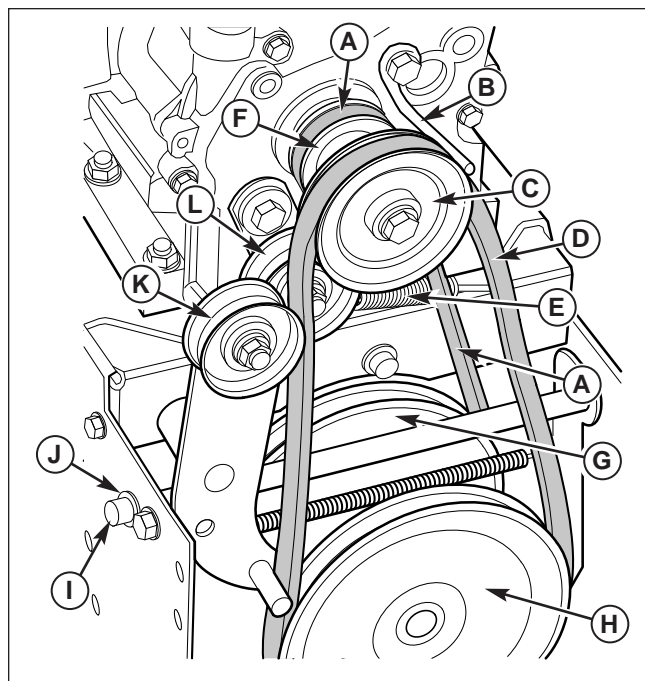

Figure 29. Pulleys and Belts
5. Loosen the belt guide (B, Figure 29). Pull the belt guide away from the auger drive pulley (A).
6. Pull the auger idler pulley (K) away from the auger drive belt (D) and slip the belt off of the idler.
7. Remove the auger drive belt (D) from the engine pulley. To remove the auger drive belt (D), the auger drive pulley (C) may have to be partially rotated.
13. Remove the old auger drive belt (D, Figure 29) from the impeller pulley. Replace the auger drive belt with an original factory replacement belt available from an authorized service center.
14. Install the new auger drive belt (D) onto the impeller pulley.
18. Install rotator cover (A) and secure with 5/16-18 flange lock nut (B). Tighten nut to 11 lb-ft (15 Nm).
19. Install the auger drive belt (D, Figure 29) onto the impeller pulley (H).
20. Slip the auger drive belt (D) under the idler pulley (K).
3. Remove the traction drive spring (E, Figure 29).
4. Remove the e-ring (J, Figure 29) from one end of the swing plate axle rod (I).